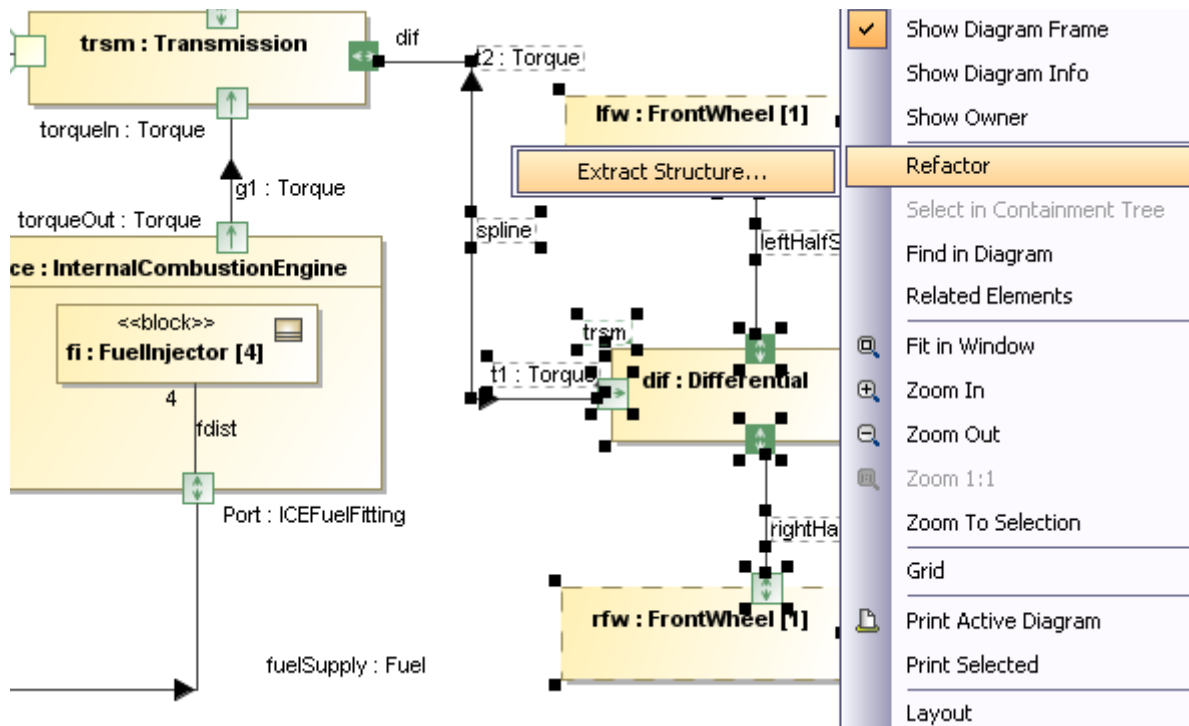
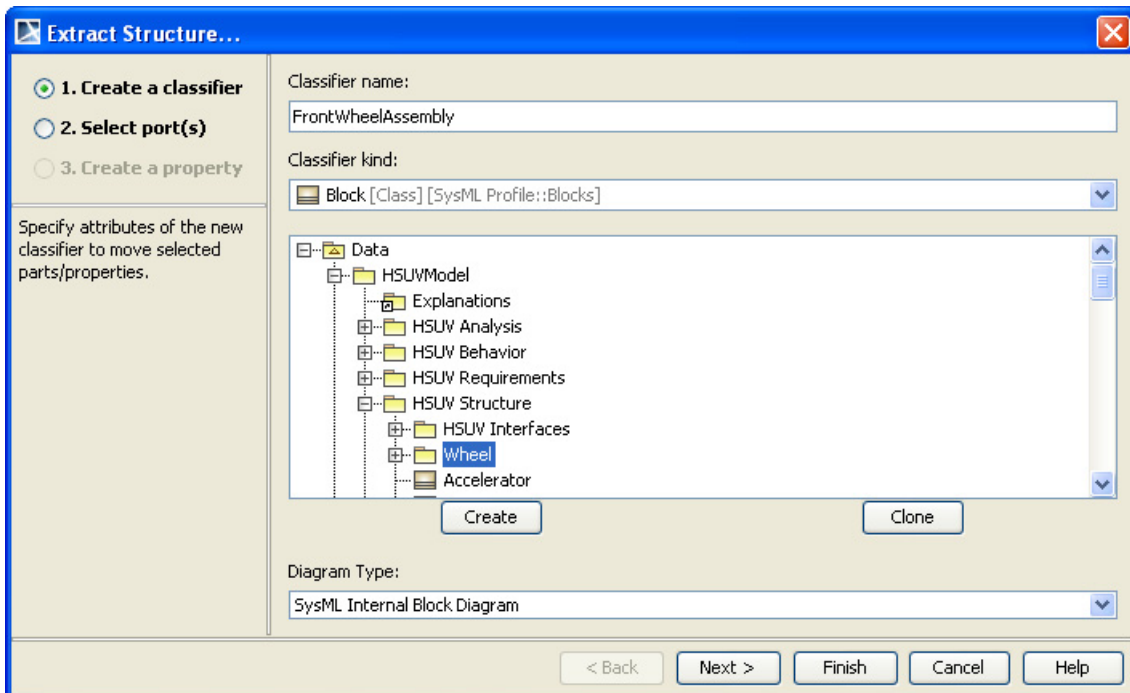

Figure 96 -- Shortcut Menu - Extract Structure (Refactoring)
Figure 97 -- Create a Classifier Step
2. Select **Refactor > Extract Structure...** (Figure 96). The **Extract Structure** wizard dialog will open, listing the three steps to extract a structure: (i) Create a classifier, (ii) Select part(s), and (iii) Create a property (Figure 97).
- Specify the name of the classifier you want to create and use for holding the structure to be extracted (called extracted classifier) in the **Classifier name** box (Figure 97).
- Select the kind of extracted classifier from the **Classifier kind** box by clicking the arrow button. The classifier kind can be a Class, Block, or Subtype of Block (Figure 97).
- Specify the owner of the extracted classifier by selecting a Package, Model, or Profile in the **Classifier owner** tree. You can also click the **Create** button to create a new Package, Model, or Profile, or click the **Clone** button to clone the selected Package, Model, or Profile (Figure 97).
- Click either **Next** to proceed to the next step or **Finish** to finish extracting a structure (Figure 97).